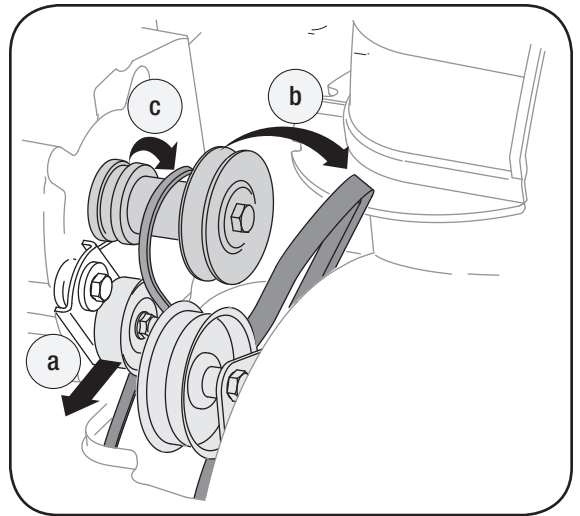

Figure 6-9
5. a. Use a wrench to pivot the idler pulley toward the right. See Figure 6-9.